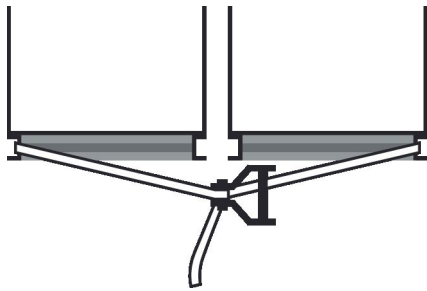

Fig. 17: Attaching a ratchet strap
4. ▶ Attach a ratchet strap to the base frames of two components (Fig. 17).